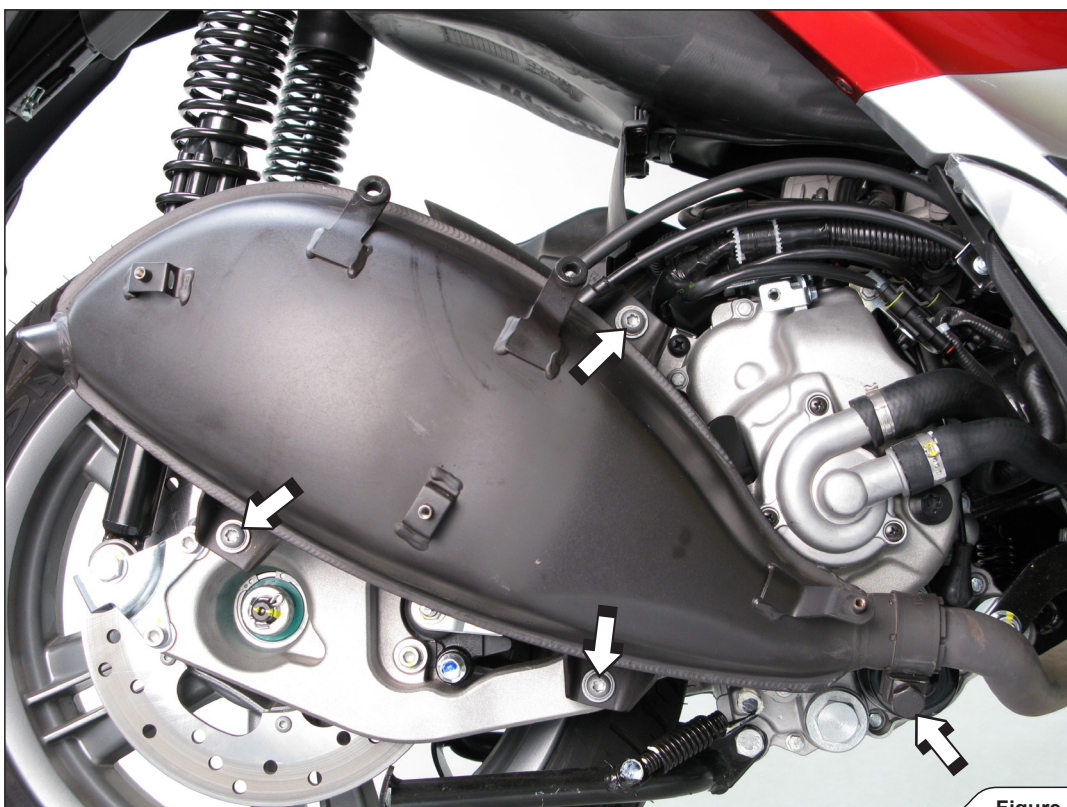

Figure 2
3. Untighten the marked link pipe clamp, unscrew the marked muffler bracket bolts and remove the stock muffler off the scooter (Figure 2).